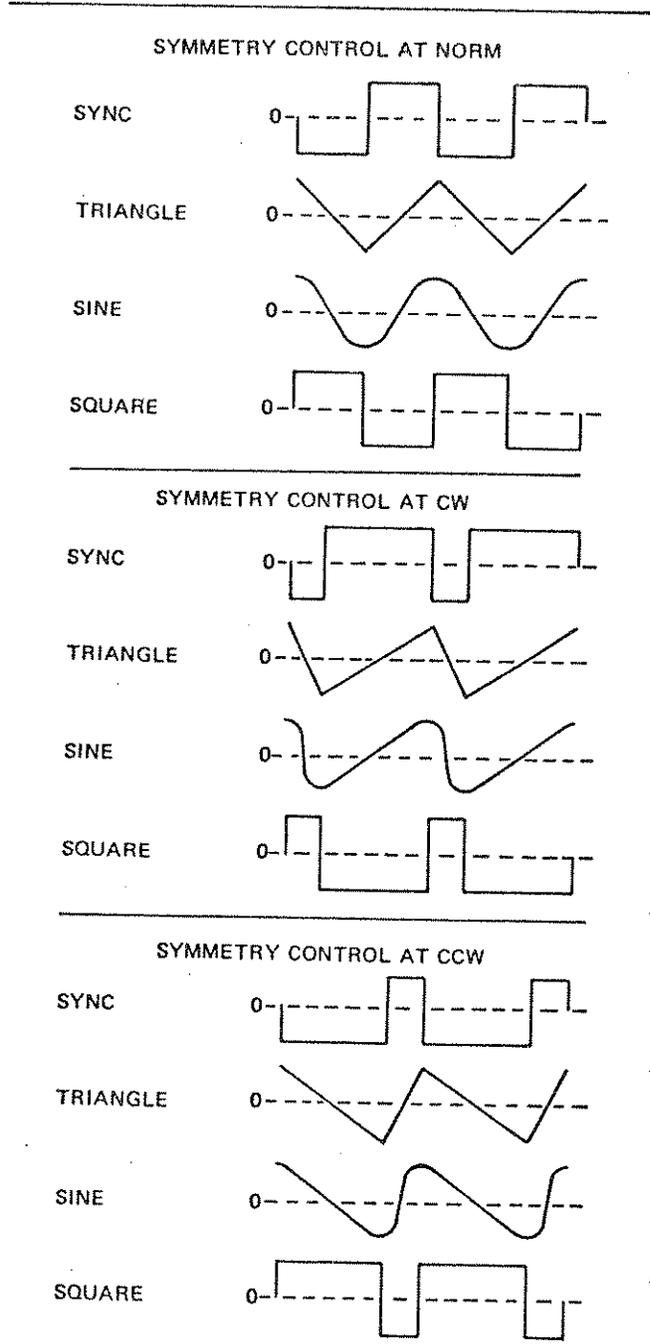

Figure 2-4. Waveform Phasing and Symmetry Control
6. Set SYMMETRY ADJUST control for desired symmetry or dissymmetry. The symmetry control can be used to develop ramp waveforms with variable rise-fall ratios and pulse trains with variable duty cycle. By using the sine wave with dissymmetry, controllable sine distortion can be developed. Figure 2-4 shows the effect of this control on output waveforms.